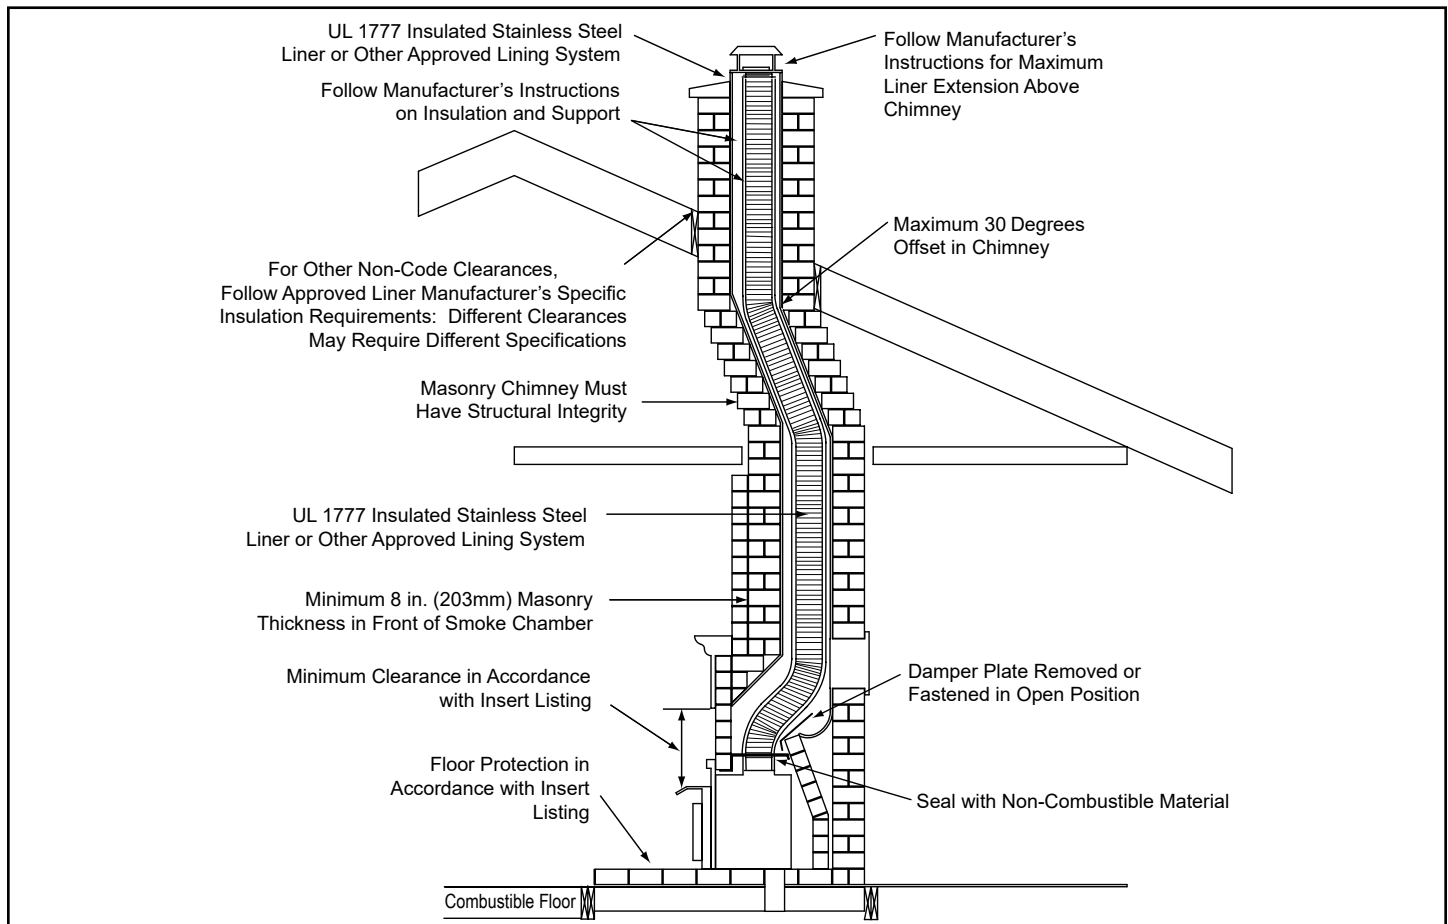

Figure 4.5 - Generic Insert Model Shown in Illustration
- b. Seal damper area of existing fireplace chimney with non-combustible material as shown below in Figure 4.5